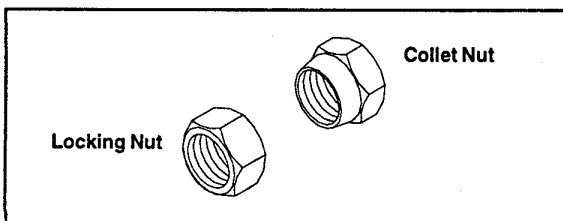

Figure 2. Collet Nut & Locking Nut
3. Install the moveable collar followed by the collet nut (see figure 2.) Tighten the collet nut hard (not wrist tight).